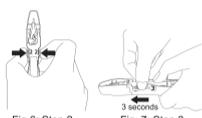

Fig.6: Step 2 - Remove cover
- Press the release tabs, lift up and remove the cover from the injector case (Fig.6).